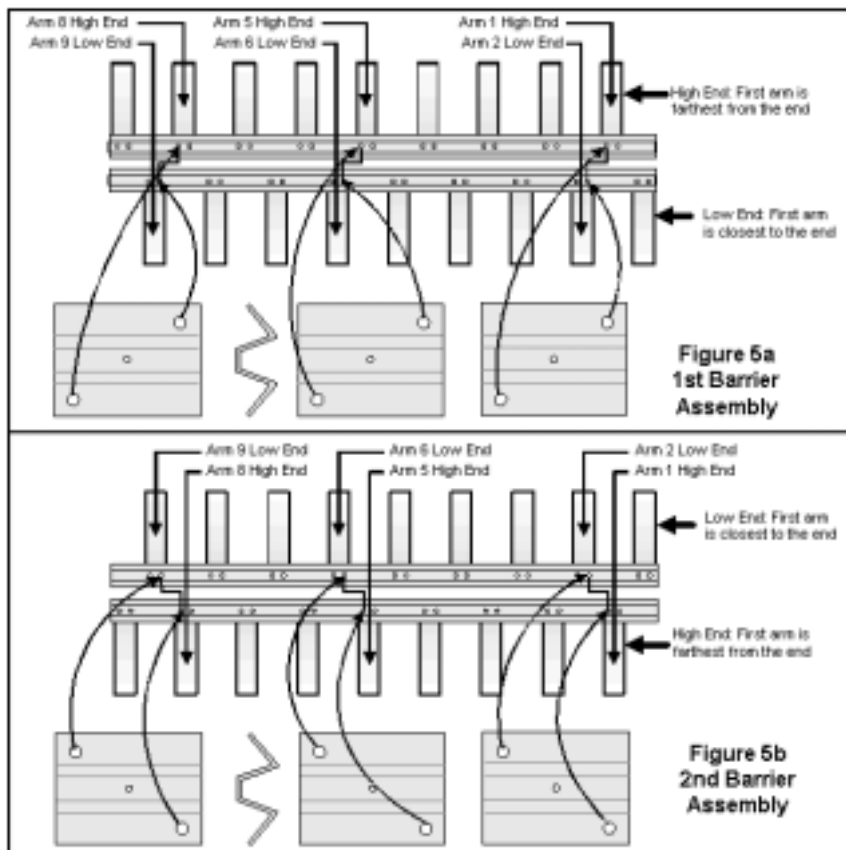

Figure 5 Attaching Barrier Angle Brackets
- Connect the two Barrier Assemblies from Figure 5 together using the Cross Bar Support from Figure 8 above.